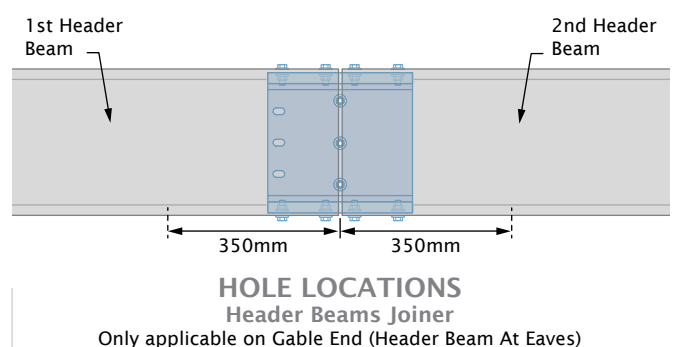

Figure 37
**Note:** If two header beams are required to cover the width of the Homeshed, the holes at the adjoining ends of the header beams must be 350mm in from the ends of the header beam (Figure 37).